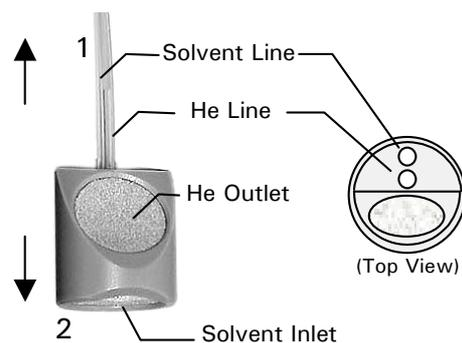

FIGURE 3-13. Sparging/Filter Frit
- b) Remove the old frit by pulling the tubing (item 1, FIGURE 3-13) off the filter body (item 2, FIGURE 3-13).